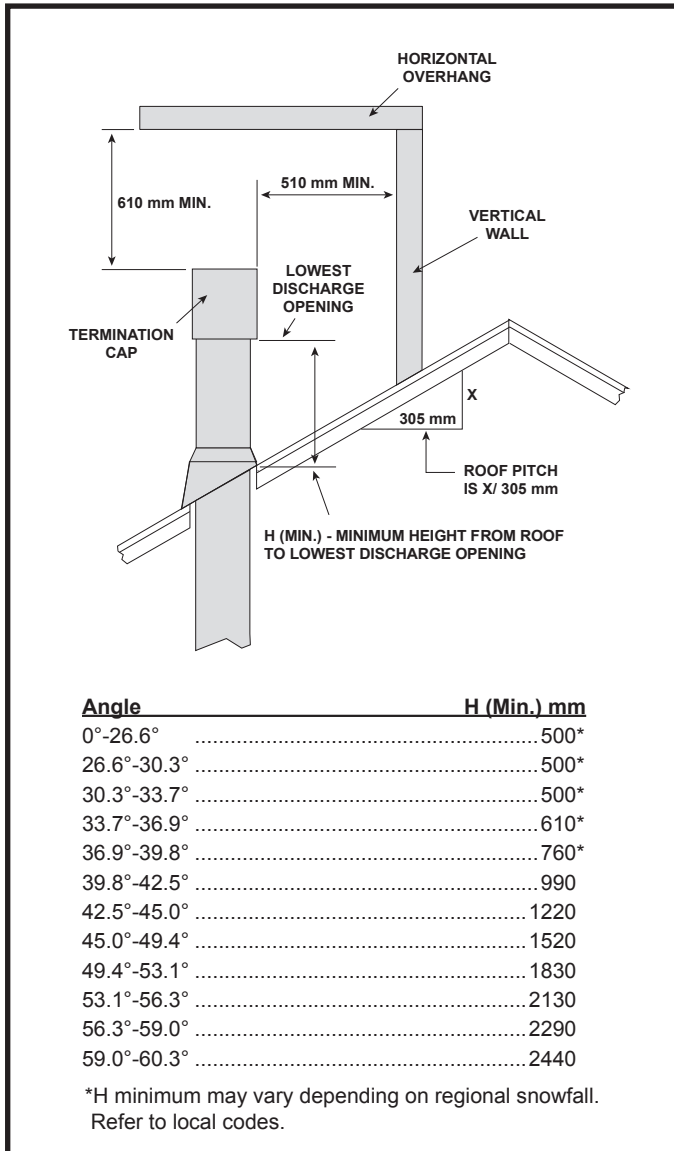

Figure 7.9 Minimum Height From Roof to Lowest Discharge Opening
- See minimum vent heights for various pitched roofs (Figure 7.9) to determine the length of pipe to extend through the roof.